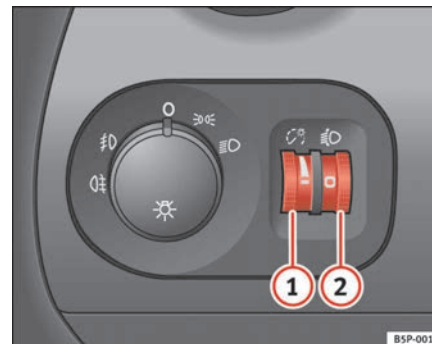

Fig. 75 Instrument panel: regulation for instrument and switch illumination and headlight range control
When the headlights are switched on, the brightness of the instruments and switch lighting can be regulated to suit your requirements by turning the thumb wheel → page 113, fig. 75 ①.